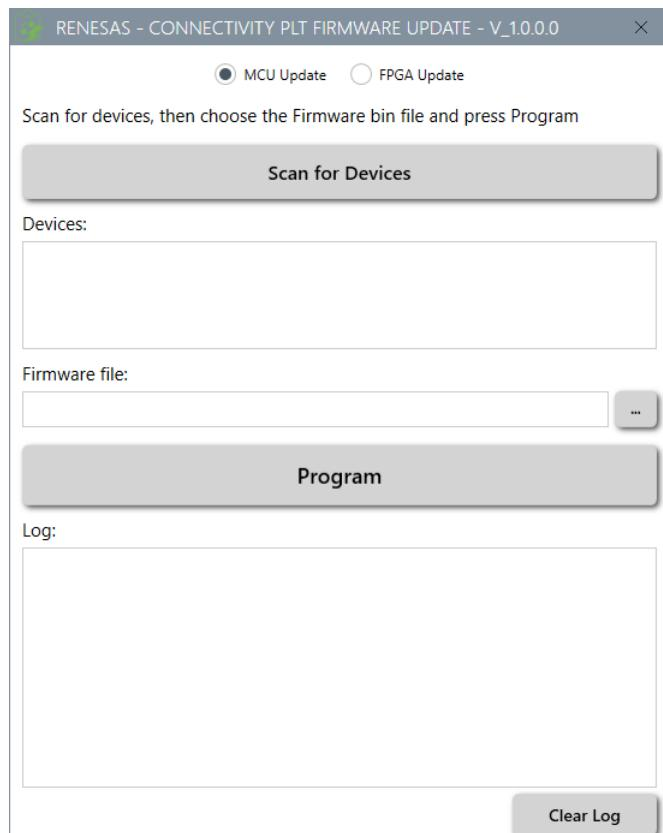

Figure 131. Firmware update application initial screen
1. In the top of **Renesas – Connectivity PLT Firmware Update** window, select **MCU Update**, and then click Scan for Devices (Figure 131).